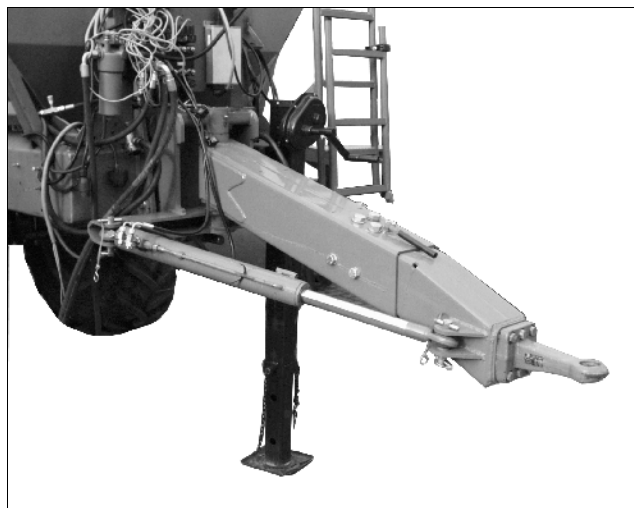

Fig. 8
- Trail-Tron track follow draw bar (Fig. 8) (only **ZG-B 7001 drive**).